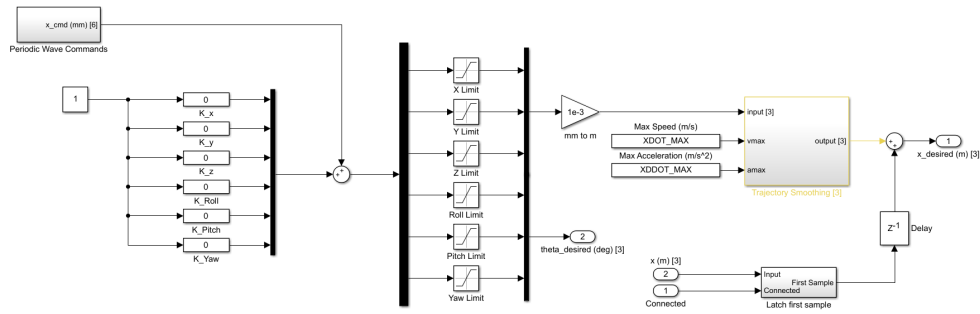

Figure 2.9: Desired position reference subsystem
The end-effector world coordinate commands are given in the Desired Position Reference subsystem block shown in Figure 2.9. The Slider Gain blocks set a constant world reference position. For example, set  $K_x$  to 5 to the stage move to 5 mm along the x-axis.
7. Change the values of the Slider Gain blocks in the Desired Position Reference block, shown in Figure 2.9 subsystem, gradually to begin commanding a position command to the top stage. See the example scope response shown in Figure 2.11